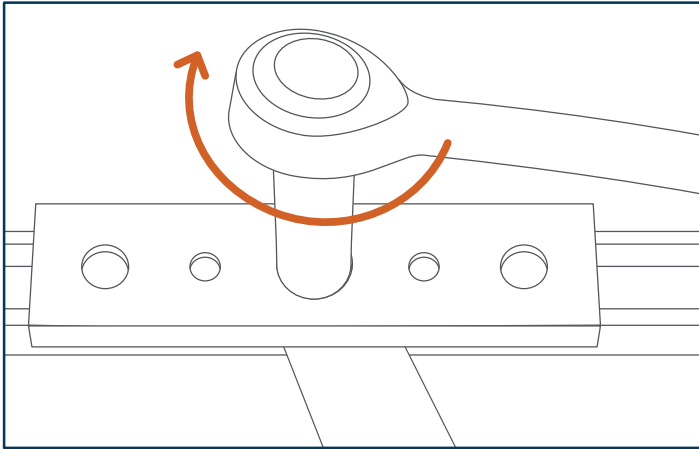

Fig. 1 - Fit up adjustment of a UtiliTrak® linear guide
Step 2: Looking down on the top of the wheel plate, as shown in Fig. 1, the eccentric stud is locked into place with a hex nut.